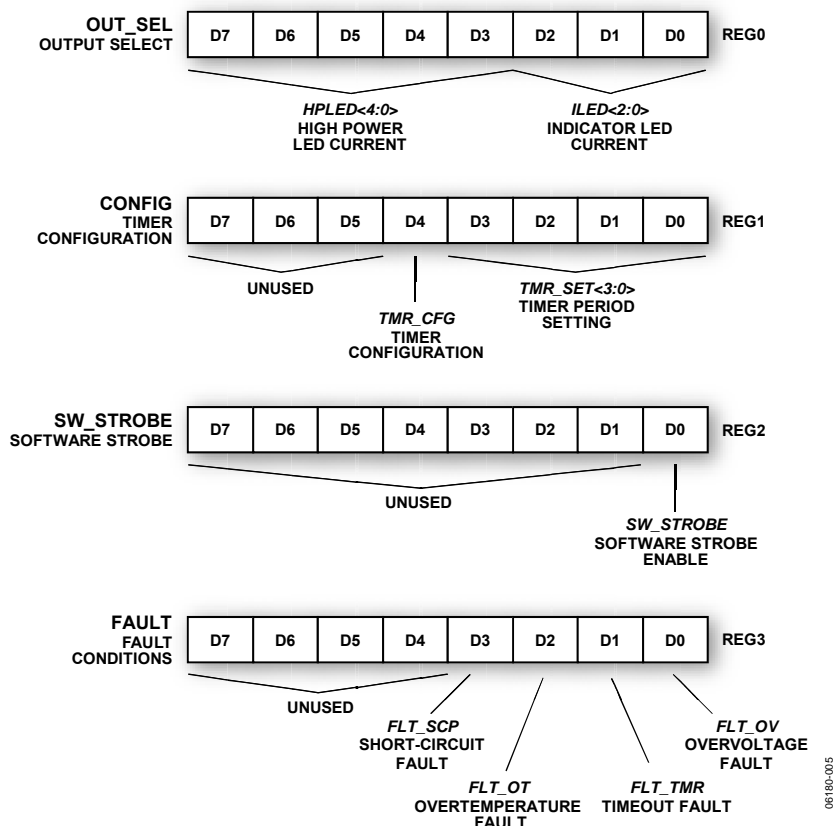

Figure 28. I2C Register Assignments
The register definitions are shown in Figure 28. The lowest bit number (0) represents the least significant bit, and the highest bit number (7) represents the most significant bit.